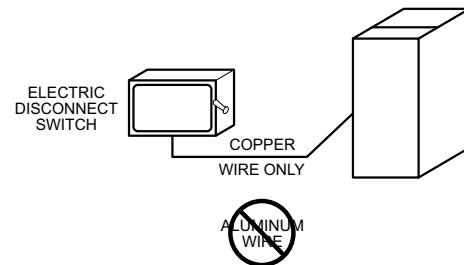

Fig. 35 – Field-Supplied External Electrical Box on Furnace Casing
Do not connect aluminum wire between disconnect switch and furnace. Use only copper wire. See Fig. 35.
1. Drill two (2) 1/8-in. (3 mm) pilot holes through the dimples in the furnace casing near the 7/8-in. knockout or plug on the side of the casing. Do not remove the knockout or plug in the side of the casing.
9. Connect field power and neutral leads to furnace power leads inside the external electrical box as shown in Fig. 35.